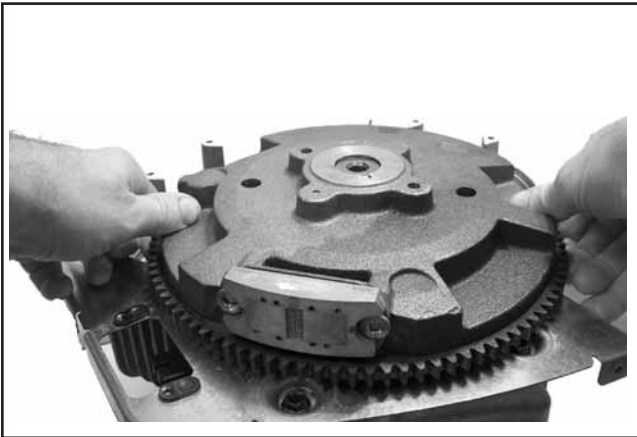

Figure 10-36. Installing Flywheel.
2. Install the flywheel onto the crankshaft being careful not to shift the woodruff key. See Figure 10-36.